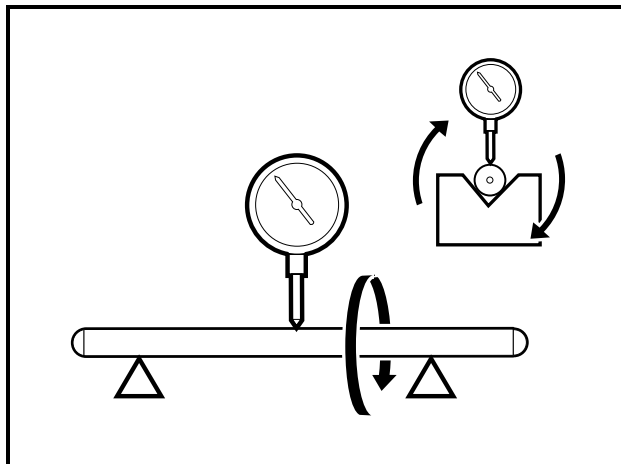

Figure 18-31 Measure Push Rod Bend
1. Support the rod in V blocks at each end of the rod. Position a dial gauge perpendicular to the rod (Figure 18-31, Page 18-16).